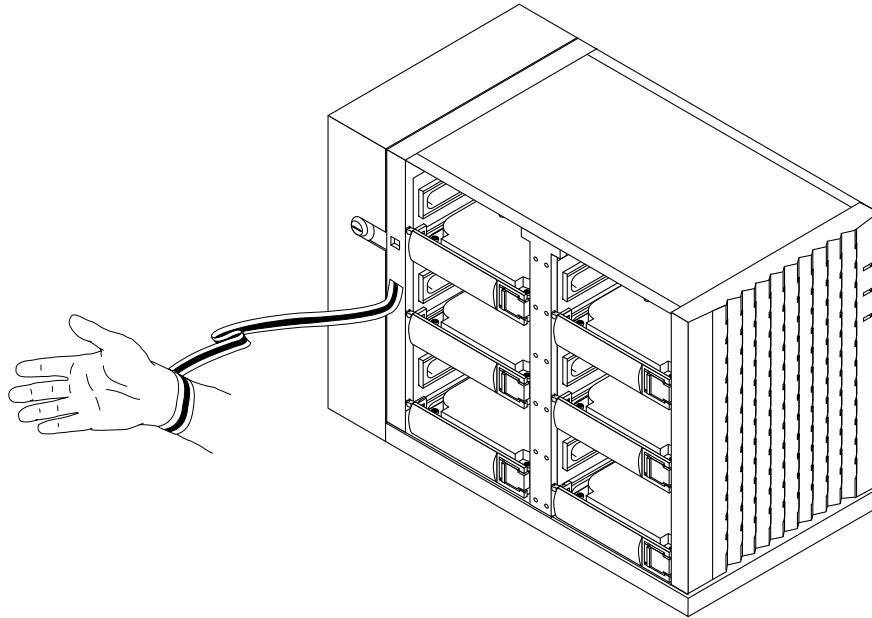

FIGURE 6-4 Attaching the Wrist Strap
4. Attach a wrist strap to yourself and then to the unit chassis (FIGURE 6-4).